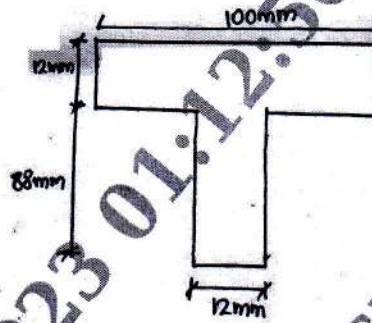

Fig. Q9 (b)
- b. The Fig. Q9 (b) below shows the cross section of a beam which is supported to a shear force of 20 kN. Draw shear stress distribution across the depth showing values at salient points. (14 Marks)